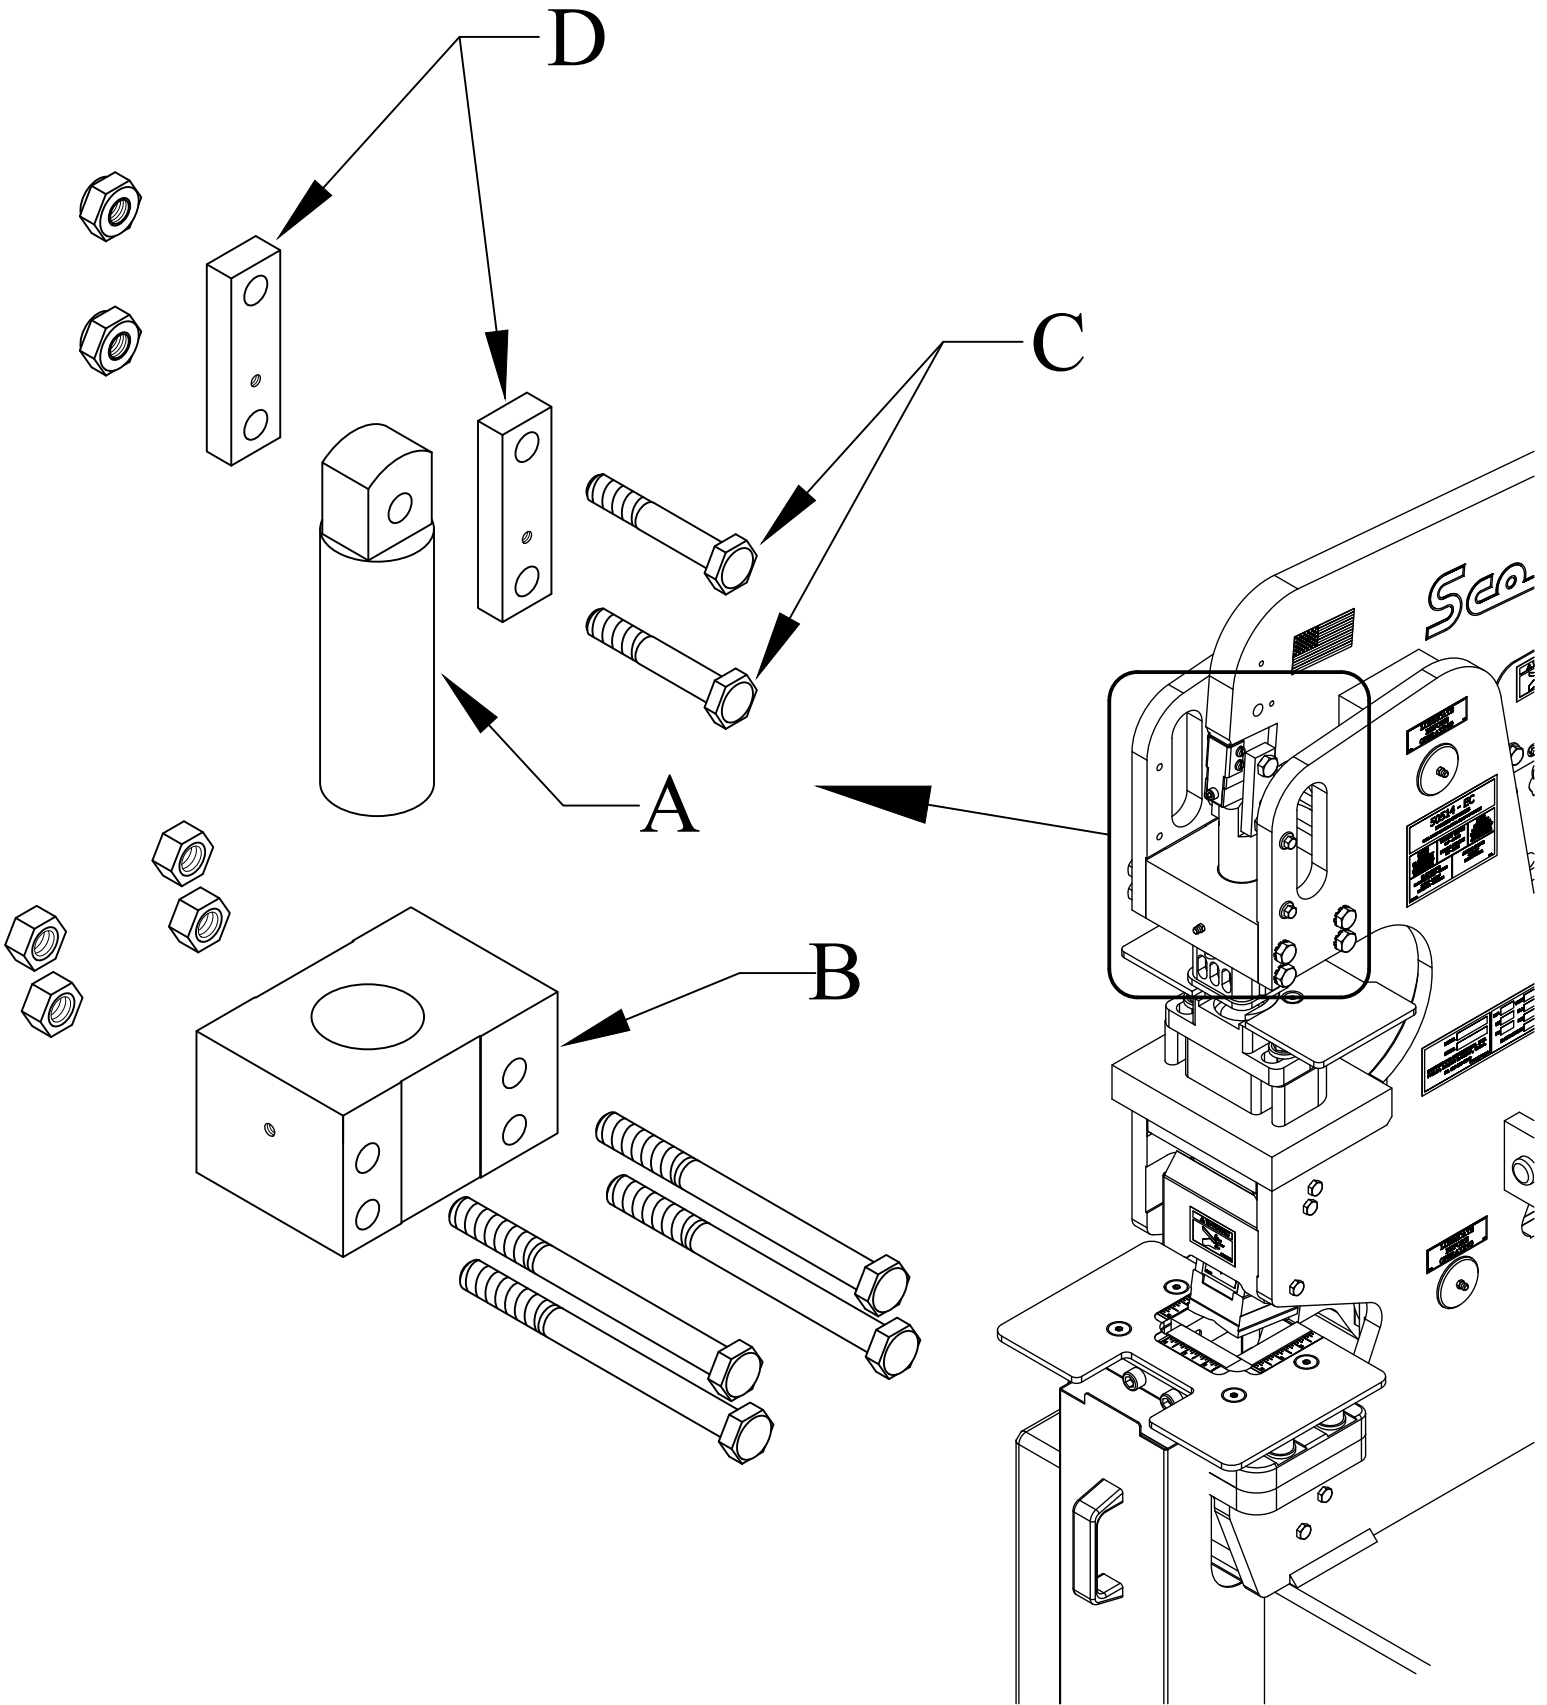

FIGURE 8
**A. Check the clearance between the punch barrel (A) and the punch barrel guide (B). FOR PARTS IDENTIFICATION, SEE FIGURE 8 ON THE FOLLOWING PAGE.**